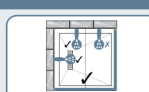

Fig 4 - Square - Full Enclosure Only
- If fitting a side screen or the tray is adjacent to a wall, ensure that front screen is at least approximately 2/3 the length of tray - See Fig 4 or 8
- Always fit full enclosures to 900x900 squares and 900 quadrant trays - See Fig 4/8